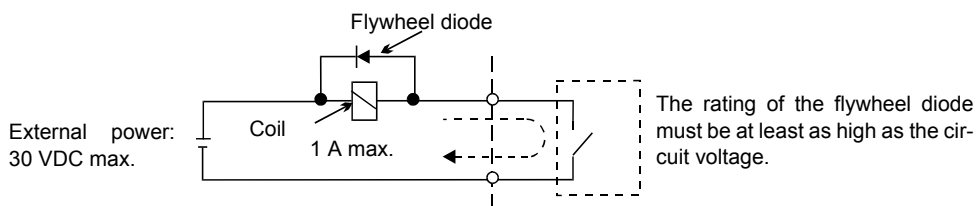

Fig 2.12 Flywheel Diode Connection
- * 3. When driving a reactive load, such as a relay coil with DC power supply, always insert a flywheel diode as shown in Fig 2.12.